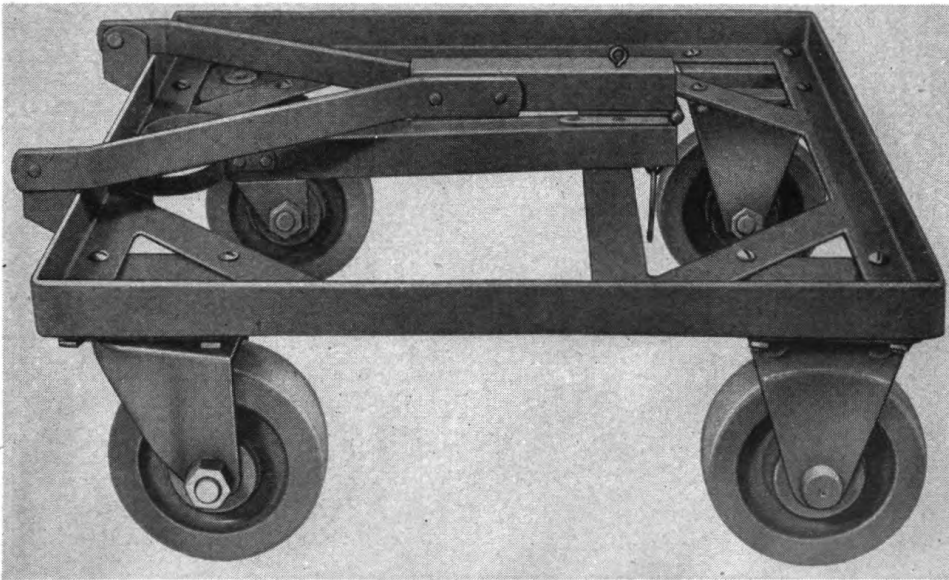

Figure 10. Dolly for field operating lamp.
a. LAMP, OPERATING, FIELD, DOLLY. A dolly mounted on casters and equipped with a handle, as shown in figure 10, is available for easy movement of the lamp in the operating room and from room to room; it is listed as Medical Department Item No. 9931600 Lamp, operating, field, dolly.